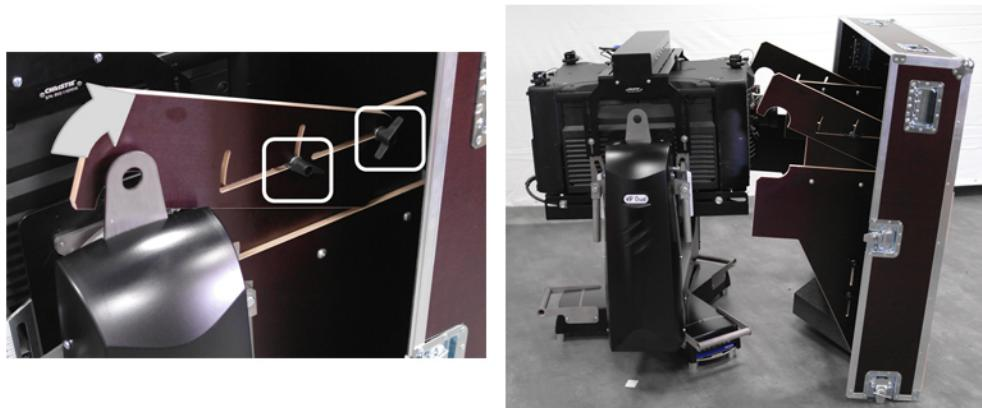

Figure 4-12 Separate Flight Case
8. Open the internal locks (both sides) and separate the flight case from the yoke. (**Figure 4-12**)